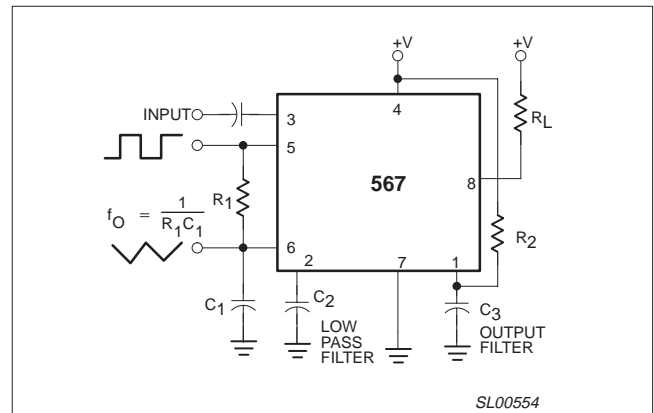

Figure 16. Typical connection
- With R₂ = 130 kΩ from Pin 1 to V₊. See Figure 16.
Figure 16 shows a typical connection diagram for the 567. For most applications, the following three-step procedure will be sufficient for choosing the external components R_1 , C_1 , C_2 and C_3 .